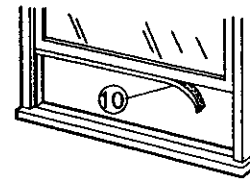

Figure 102
3. Cut the Foam-PE ⑩ to fit the underside of the window sash. Peel off the backing and attach the Foam-PE as shown in Figure 102.
4. Insert the side curtain ① into the upper guide and lower guide of the air conditioner. Fasten the curtains to the unit with TYPE A screws ⑤.
6. Attach the sill bracket to the window sill using the TYPE B screws ⑥. Carefully place the cabinet on the window stool and align the center mark on the angle front with the center line marked on the window stool.
7. Using the M-screw ⑧ and the lock nut ④, attach the support bracket to the cabinet track hole. Use the first track hole after the sill bracket on the outer edge of the window sill. Tighten the carriage bolt and the lock nut. Be sure the cabinet slants outward 1/4 bubble using the carpenters level.